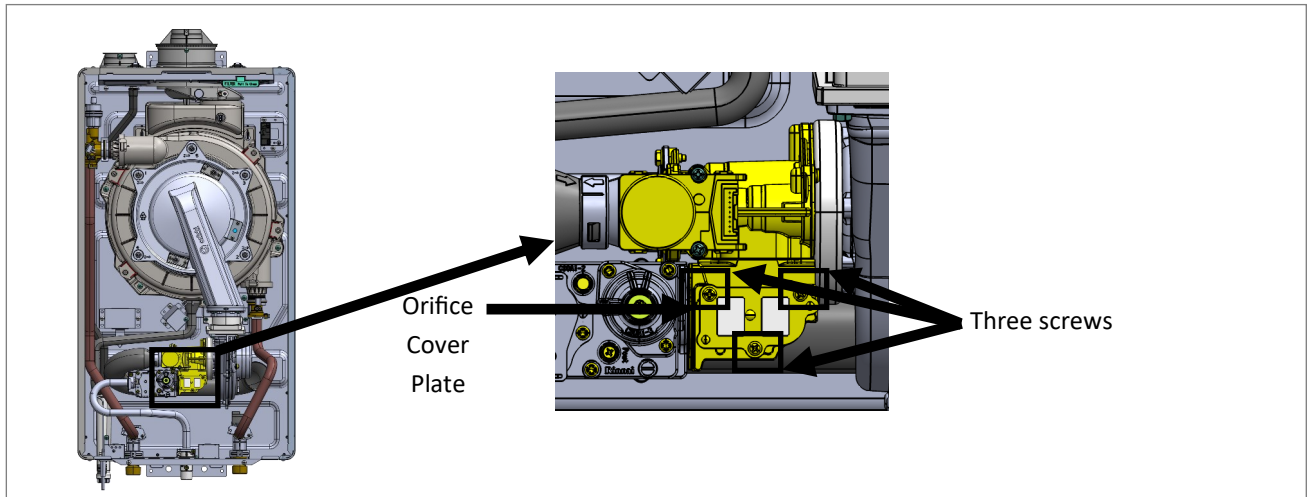

Figure 142
- 5 Locate the orifice cover plate on top portion of gas valve (Figure 142).
- 7 Remove the three screws securing the orifice cover plate (Figure 142).